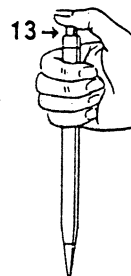

Fig. 1
**TO OPERATE PENCIL**—Hold pencil with tip down. Press top (13) down and a lead will appear at the pencil's tip ready for writing. See Fig. 1. As you use up the lead simply press down on the top and more lead will appear at the tip.